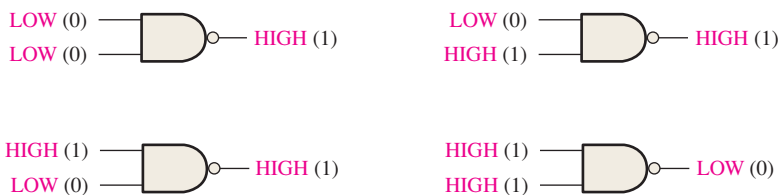

FIGURE 3–27 Operation of a 2-input NAND gate. Open file F03-27 to verify NAND gate operation.
A **NAND gate** produces a LOW output only when all the inputs are HIGH. When any of the inputs is LOW, the output will be HIGH. For the specific case of a 2-input NAND gate, as shown in Figure 3–26 with the inputs labeled *A* and *B* and the output labeled *X*, the operation can be stated as follows:
This operation is opposite that of the AND in terms of the output level. In a NAND gate, the LOW level (0) is the active or asserted output level, as indicated by the bubble on the output. Figure 3–27 illustrates the operation of a 2-input NAND gate for all four input combinations, and Table 3–7 is the truth table summarizing the logical operation of the 2-input NAND gate.